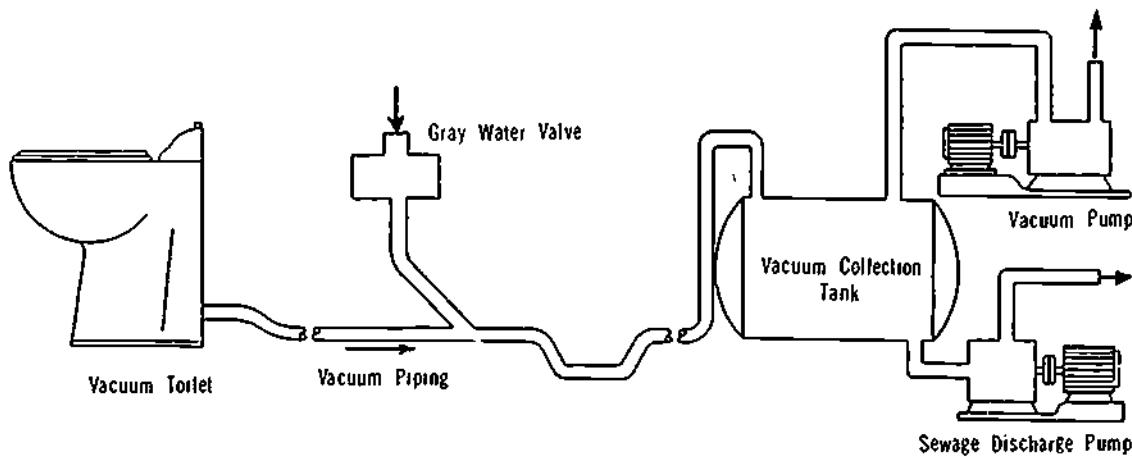

Figure 37-24. Major Components of the Vacuum System
77. The basic principles of the vacuum system are as follows (Figure 37-24):
78. In vacuum transport, the sewage enters the vacuum piping network (Figure 37-24) through either the vacuum toilet or urinal (black water) or an interface valve for the gray water (all other plumbing fixtures). The small-diameter plastic piping is held under a constant vacuum of about 56 kPa, which is maintained throughout the piping system by the vacuum collecting station.